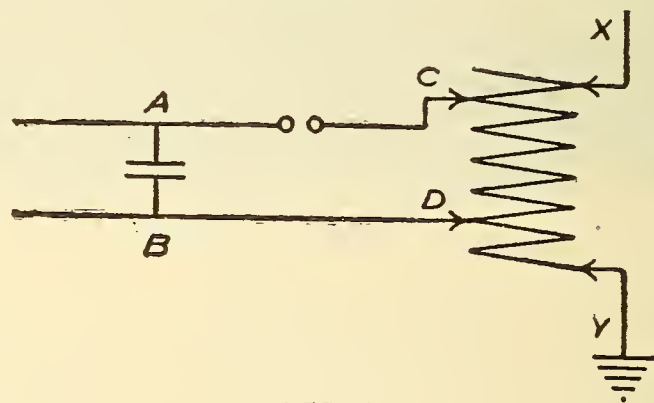

FIG. 1
denser bus-bar constructed of  $\frac{1}{2}$  inch brass tubing. This condenser will be known here as "A," and the hook-up used is shown in Fig. 1.
General Electric hot-wire ammeter, using the condenser A only. That is, in Fig. 1, the open circuit (XY) was adjusted by means of a movable clip fastened to the aerial lead and indicated in the figure by an arrow until the natural frequency of the circuit (XY) was the same as that of the closed or oscillating circuit (ABCD). This is termed resonance, and it is under such conditions that the condenser circuit will induce currents of greatest value upon the radiating circuit (XY).